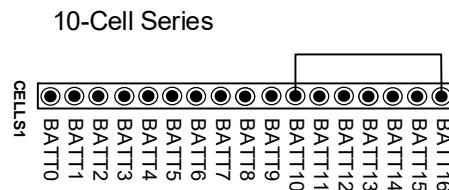

Figure 5: 10 Cells in Series Connection
4. By default, this board has 16 cells in series. To use the cell simulator shunt and evaluate the device at a lower series number, short-circuit the corresponding channels. Figure 5 shows the 10-cell series connection with the cell simulator shunt. Decrease the DC power supply voltage between BATT16 and BATT- depending on the number of cells in series.